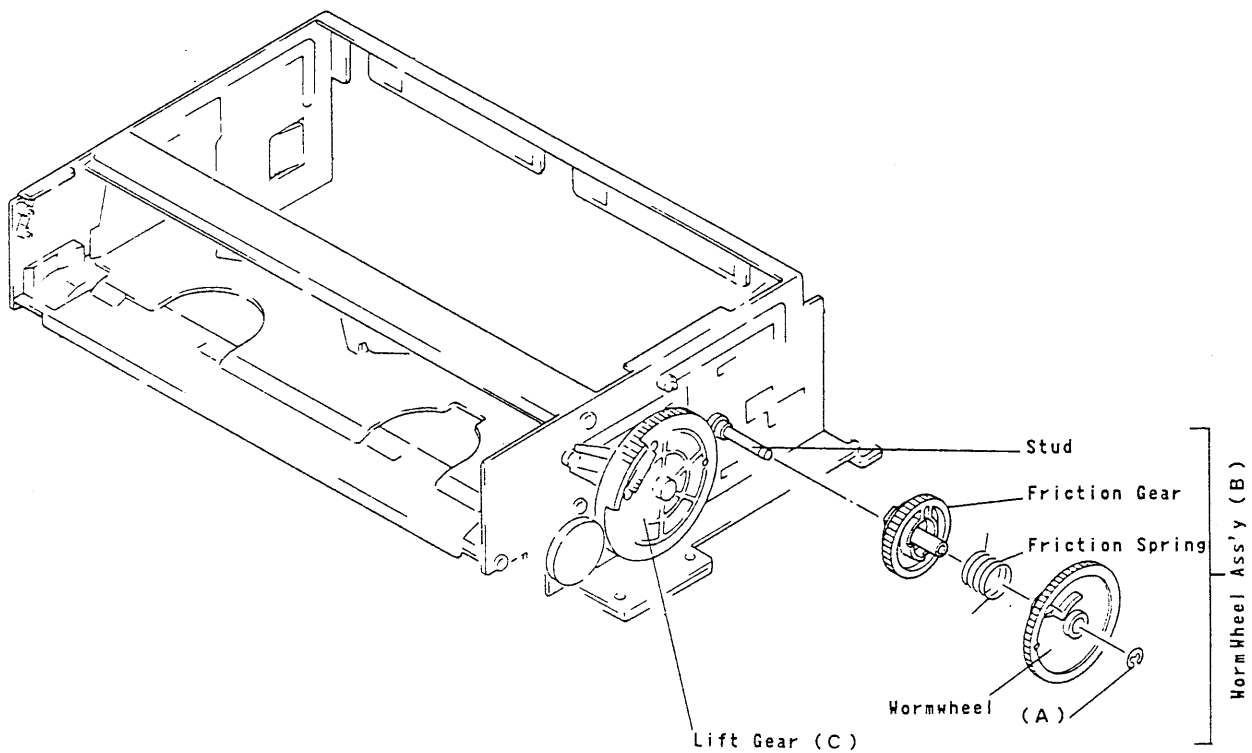

Fig. 2-16
(16) Front Loading Wormwheel Unit (Fig. 2-16)